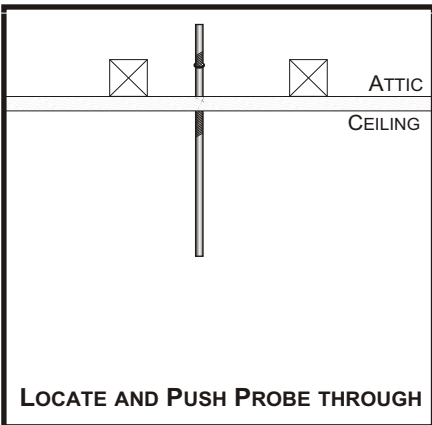

Figure 1
**(Fig. 1).** Now go in the attic and locate the probe, measure this area. Also you need to check that the area is clear of any ducts or pipes. Clear away the insulation from around the probe. Take note where the ceiling joists are in relationship to the probe. Return to the living area of the home.